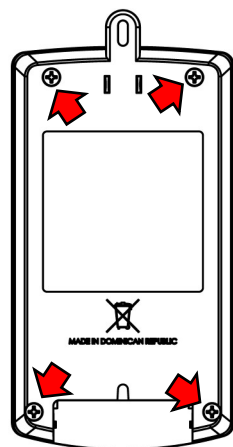

Fig. 1: Rear of the unit
6. On the back of the unit, remove the four (4) screws that secure the rear housing and pull off the rear housing (see Fig. 1).